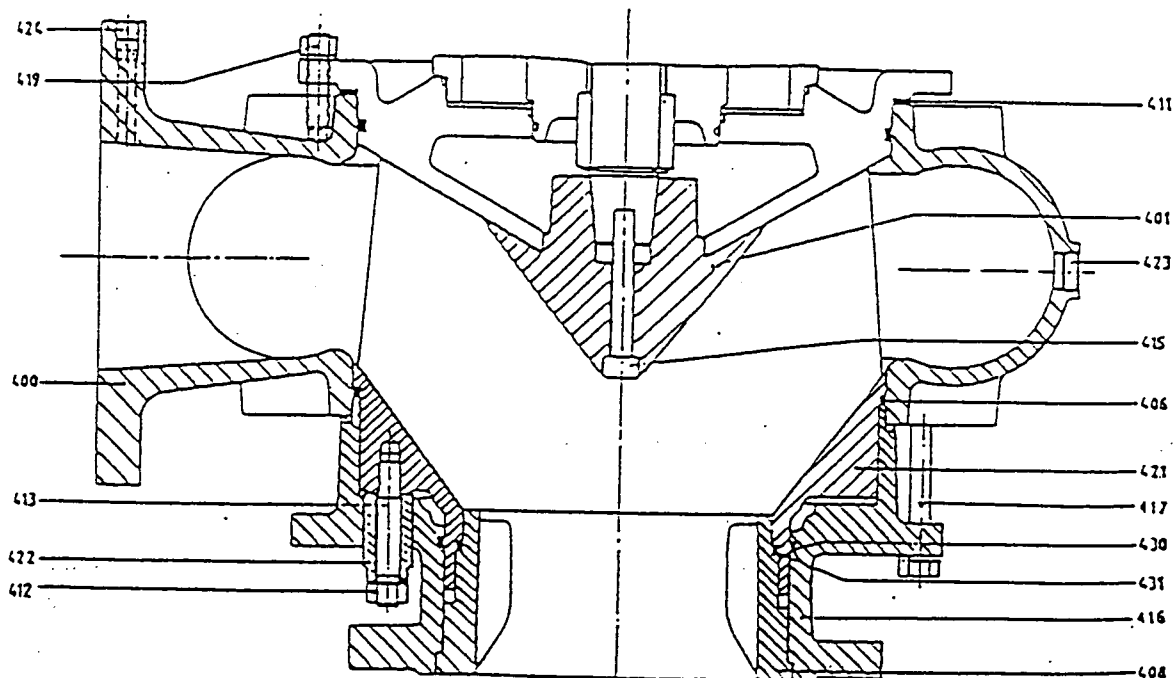

FIGURE 17: E080
The wear ring (408) should not typically require disassembly; remove from suction casing only if badly damaged by unusual circumstances. (It will be necessary to heat the mating surfaces with a torch to destroy the special adhesive between these two parts. Then press out suction ring with a hydraulic press.) See Figure 17.
c) For all other pumps with "regulable" feature (see Figure 17,18,19)